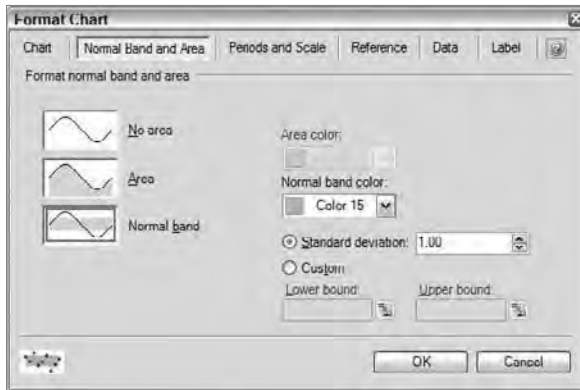

Figure 26.9: Use the Normal Band and Area tab to add a shaded band showing the standard deviation or a band width you calculate.
5. Change the Standard Deviation to 1.5. This will make the grey shaded area range from the average + or - 1.5 standard deviations. The Chart Format dialog box and its sample display will now look like Figure 26.9. Click OK to see the results on the worksheet.